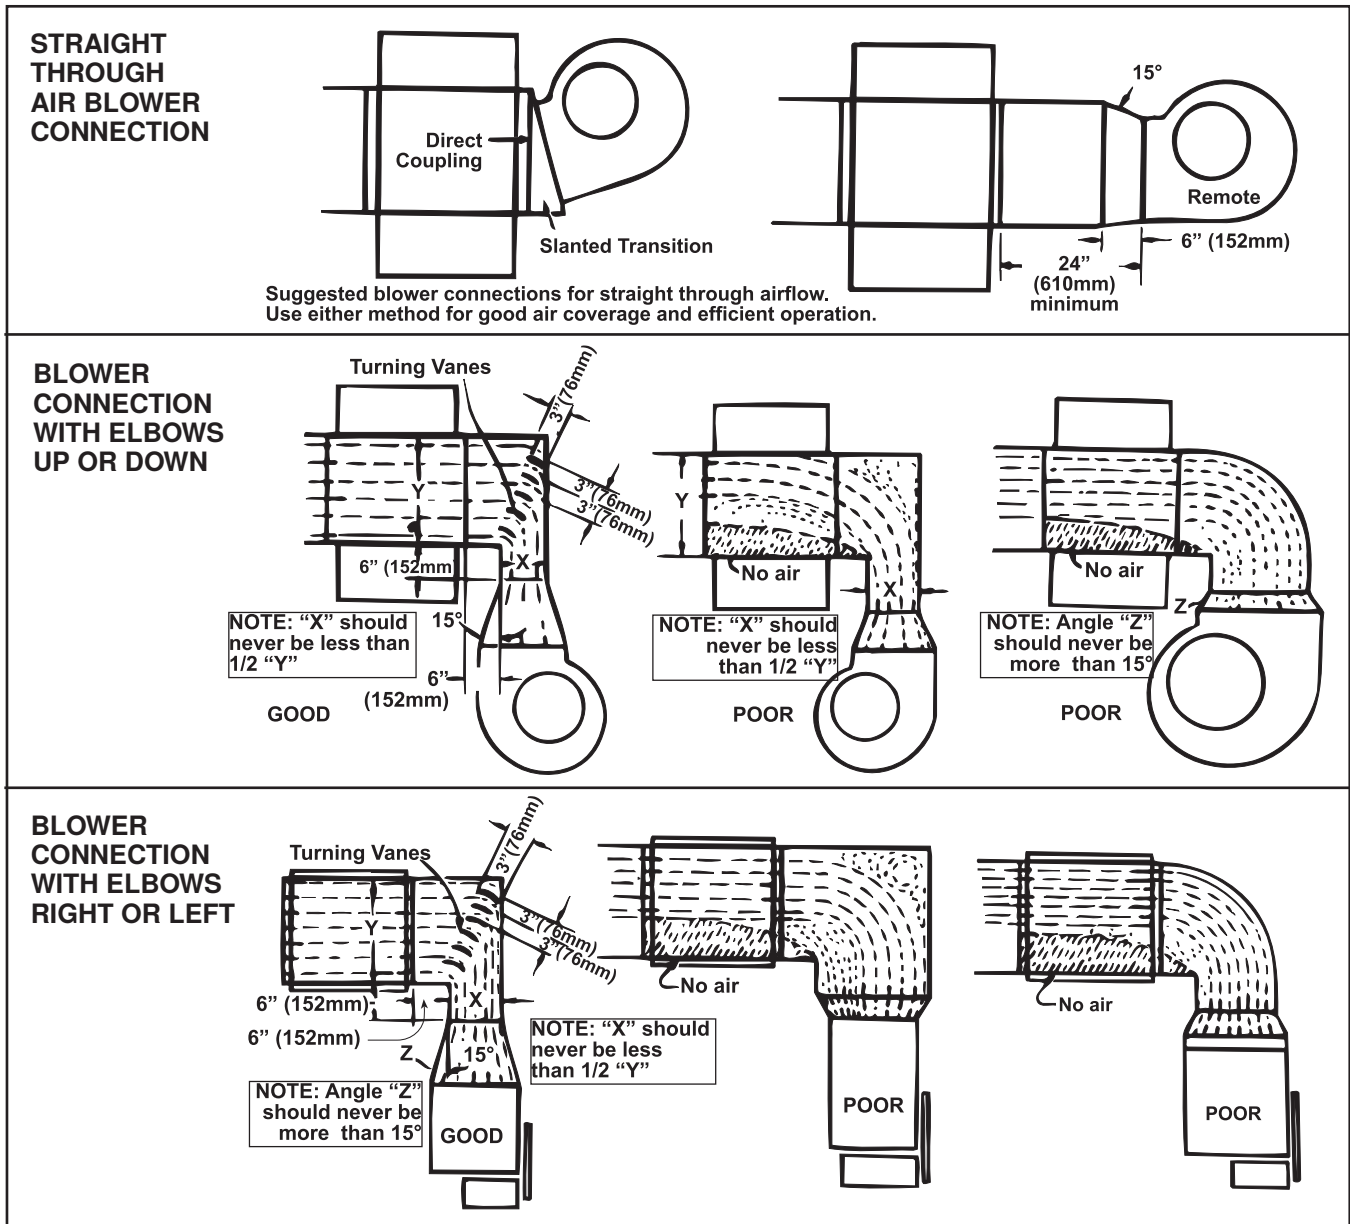

Figure 23. Duct Furnace Blower Connections
- Proper arrangements of blower and duct furnace with respect to angle of approach of the duct connection and the arrangement of the discharge opening of the blower are shown in Figure 23.